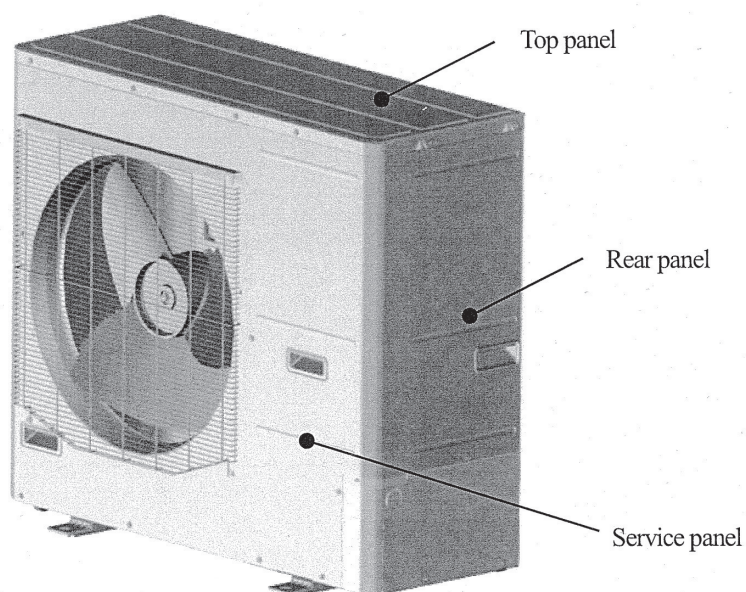

Fig.1 Outdoor unit overall view
- a) After the breaker is shut down, remove the service panel, top panel and rear panel. (Refer to Fig.1).